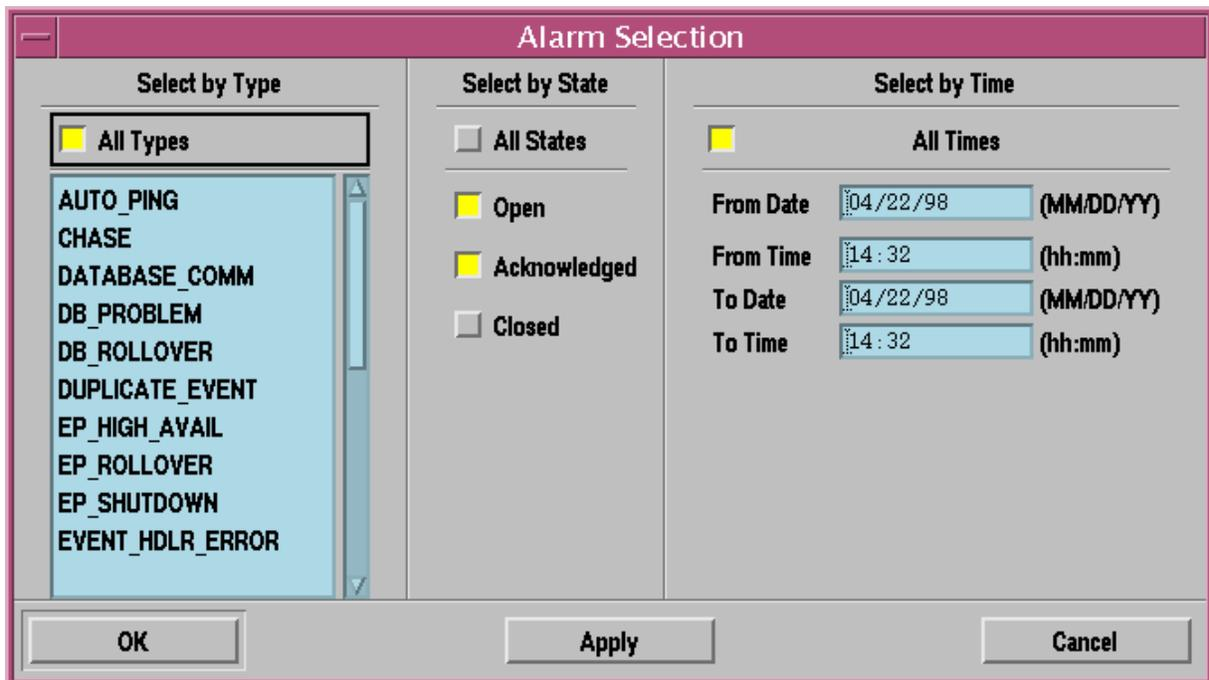

Figure 49. Alarm Selection GUI
- **Alarm Selection** GUI (Figure 49) is displayed.